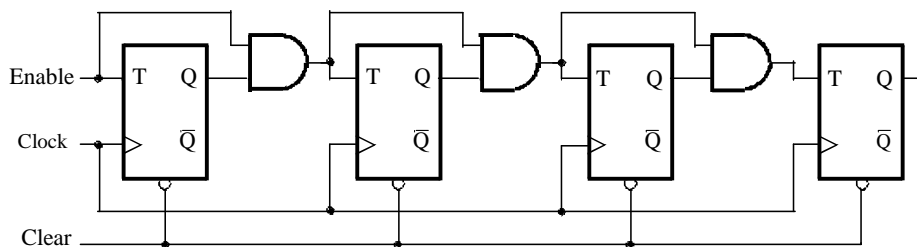

Figure 1. A 4-bit counter.
Consider the circuit in Figure 1. It is a 4-bit synchronous counter which uses four T-type flip-flops. The counter increments its count on each positive edge of the clock if the Enable signal is asserted. The counter is reset to 0 by using the Reset signal. You are to implement a 16-bit counter of this type.
1. Write a Verilog file that defines a 16-bit counter by using the structure depicted in Figure 1. Your code should include a T flip-flop module that is instantiated 16 times to create the counter. Compile the circuit. How many logic elements (LEs) are used to implement your circuit? What is the maximum frequency, F_{max} , at which your circuit can be operated?